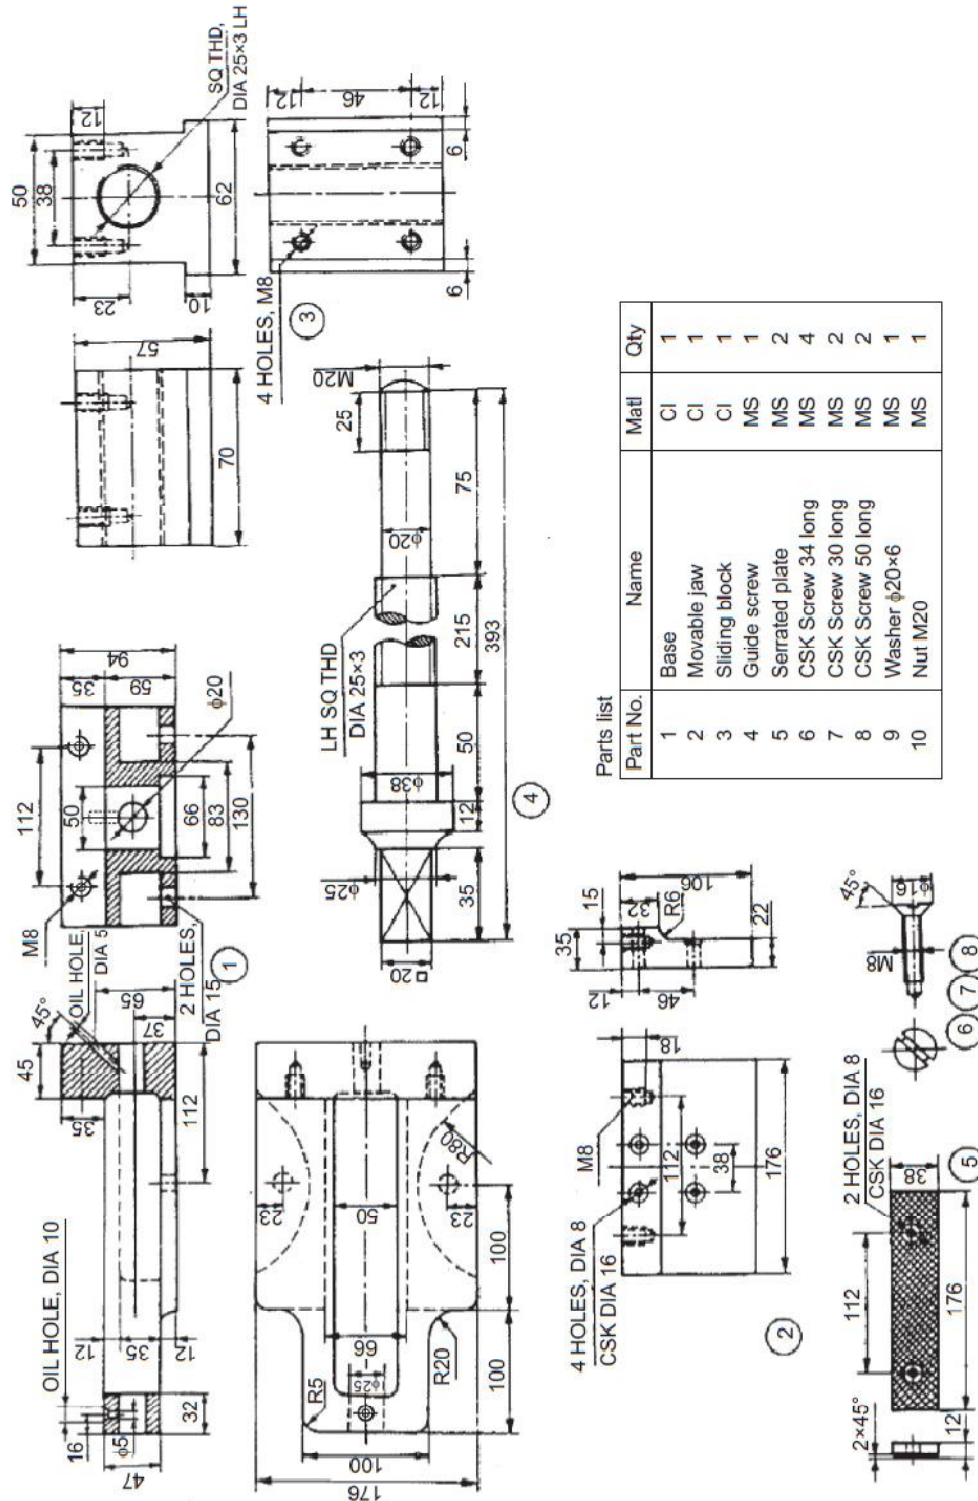

Fig. 1 Machine vice
2. a) Assemble all parts of the machine vice, shown in Fig. 1 and draw the (50M)